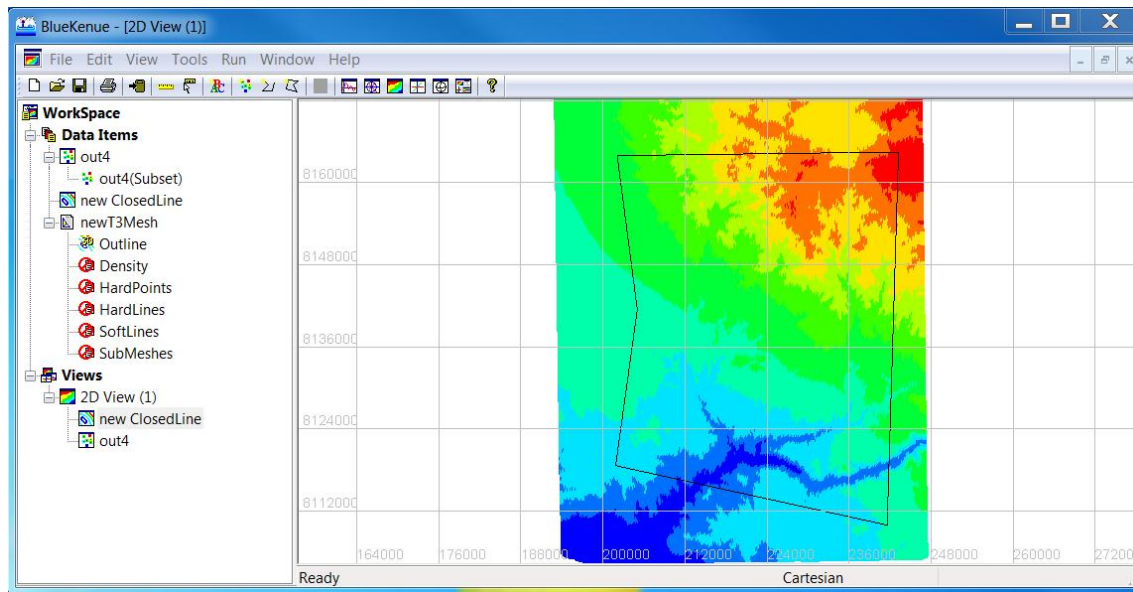

Figure A108: Drag *newClosedLine* into *newT3Mesh Outline*
6. Drag the new ClosedLine into Outline of newT3Mesh (Figure A108) Page 91